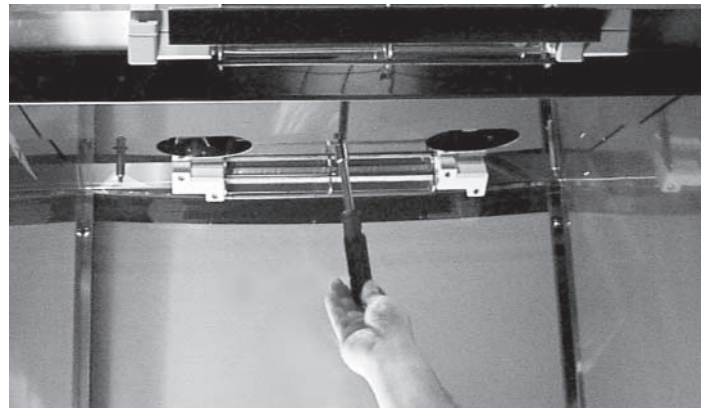

Fig. 72
13. Reinstall element cover: Tighten $7/16$ " center nut using $7/16$ " nutdriver (Fig. 72).